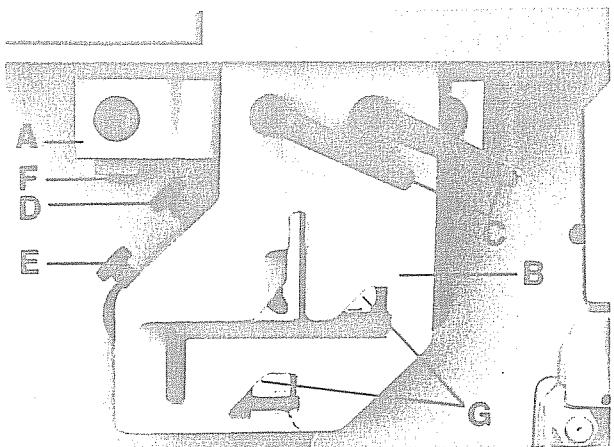

Fig. 37: Hold-down KBLH 300
- KBLH 300: Loosen clamping lever "B", and push the hold-down plate "C" off the stop rail (Cf. fig. 37).
(Cf. fig. 37)